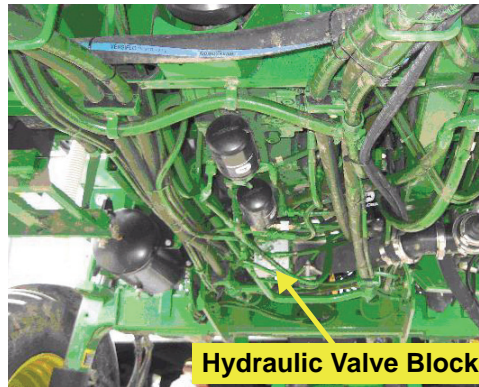

Figure 3a: Hydraulic valve block
a. The Automated Steering Block will receive pressure from the hydraulic valve block located under the sprayer. (Figure 3a)